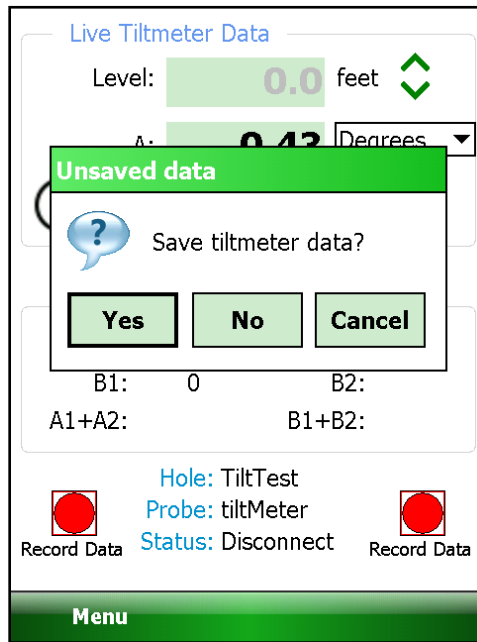

Figure 15 - Saving Data Query
- 13) Reverse the Tiltmeter orientation to A- and, again, tap “Record Data” to take the “A-” reading. For the Model 6101D, the “B-” reading is taken at the same time as “A-”. Tapping “Menu->Exit Live Readings” will display the window in Figure 15.